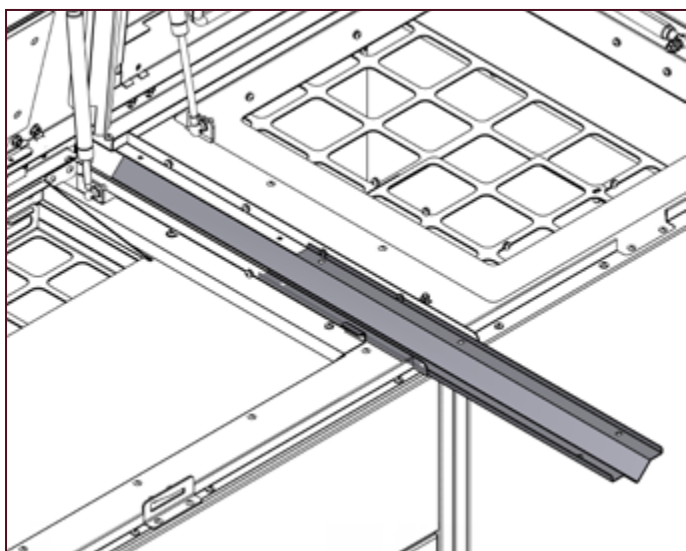

Figure 10-10: Fitting the top joining channel
13. Fit the top joining channel between the boiler and side pellet store with the V-shaped tongue facing towards the back of the boiler/side store. Carefully slide the joining channel in the V-shaped groove formed between the two boilers. Refer to Figure 10-10.